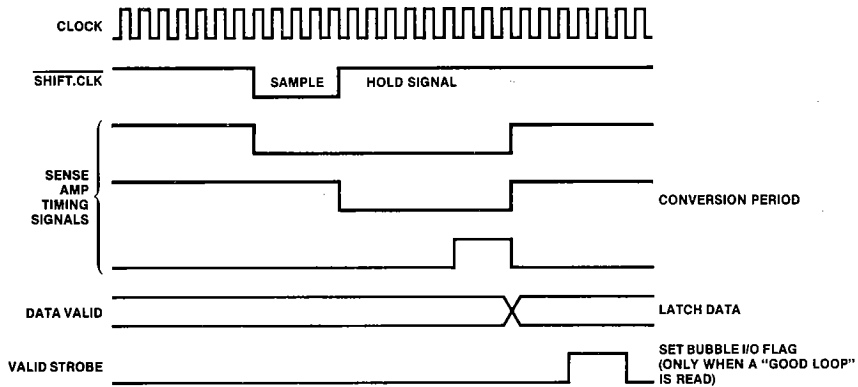

Figure 3. Data Read Timing
**Read Timing** — The timing for reading a bit from the memory shall be as follows (see Figure 3):